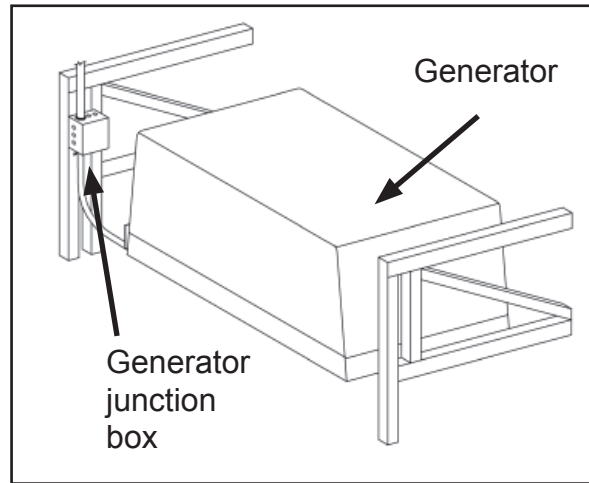

Figure 1
3. Referring to Figure 1, locate the generator's junction box.